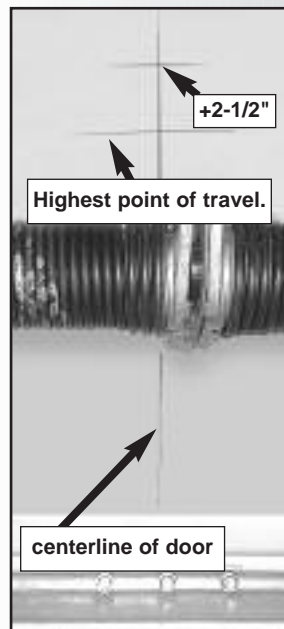

Fig. 2-3
- A locking pliers can be used to hold the door in position by clamping it onto the rail. (A stool, chair, table or any object that can safely support door will work.) **Fig. 2-3.**
- Mark “highest point of travel” at centerline on wall above door. **Fig. 2-3.**
add 2-1/2 inches to “highest point of travel” and mark this height on centerline. **Fig. 2-3.**